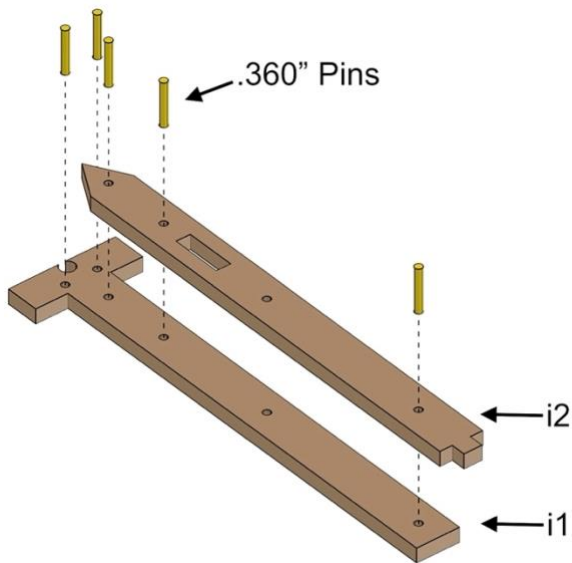

Fig. 43
- Align parts exactly as shown in Fig. 43.